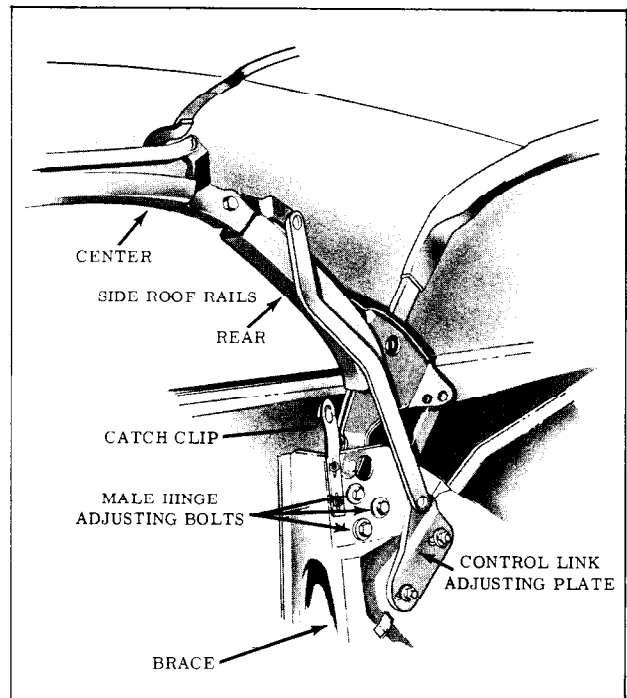

Fig. 15-82 Adjusting Plate
ADJUSTMENT OF TOP CONTROL LINK ADJUSTING PLATE (Fig. 15-82)
- b. Loosen male hinge assembly attaching bolts. (Fig. 15-82)